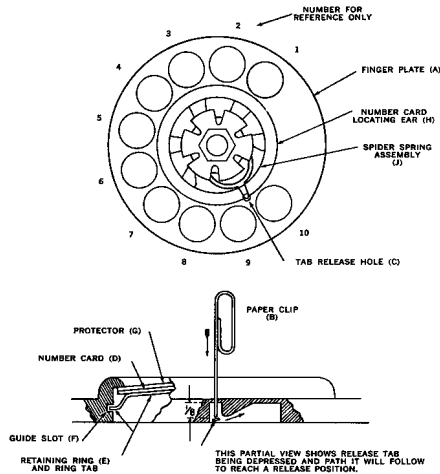

FIGURE 10
- 5.01 Revolve the finger plate (A) in a clockwise direction as far as it will go. Then insert one end of an opened paper clip (B) into the tab release hole (C) and depress the tab approximately $1/8"$. With the locking tab depressed, continue to turn the finger plate in a clockwise direction until a second stop is reached. Remove the paper clip (B) and lift the finger plate from the dial. (See Figure 10).